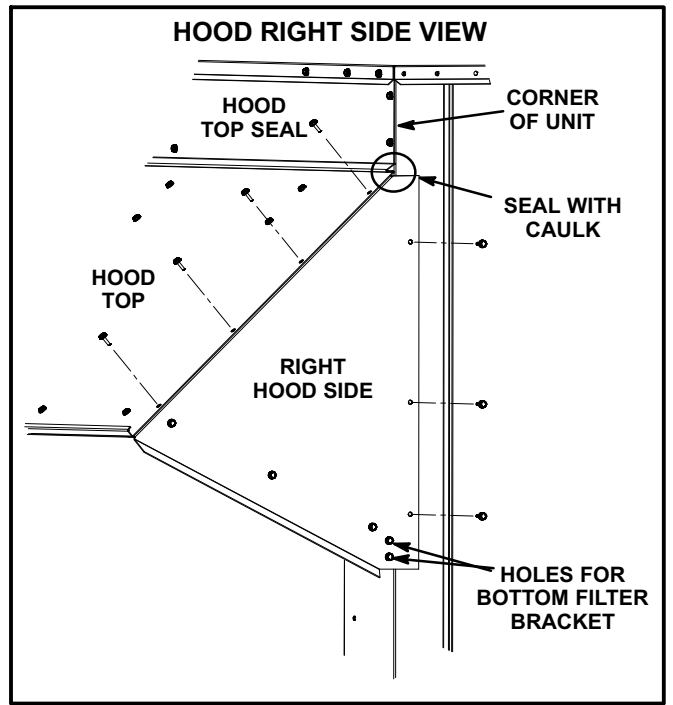

FIGURE 13
- 11- Secure the right hood side to the hood top. See figure 13. Do NOT secure the right hood side to unit.
- 14- Secure the right hood side to the unit as shown in figure 13.